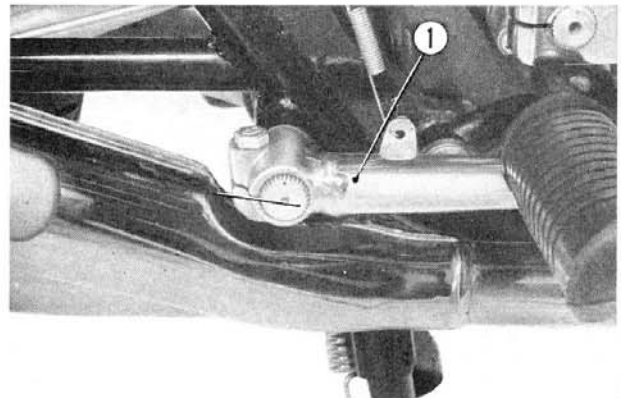

Fig. 2-8 ① Rear brake pedal
6. Install the rear brake pedal and connect the stop switch spring (**Fig. 2-8**)